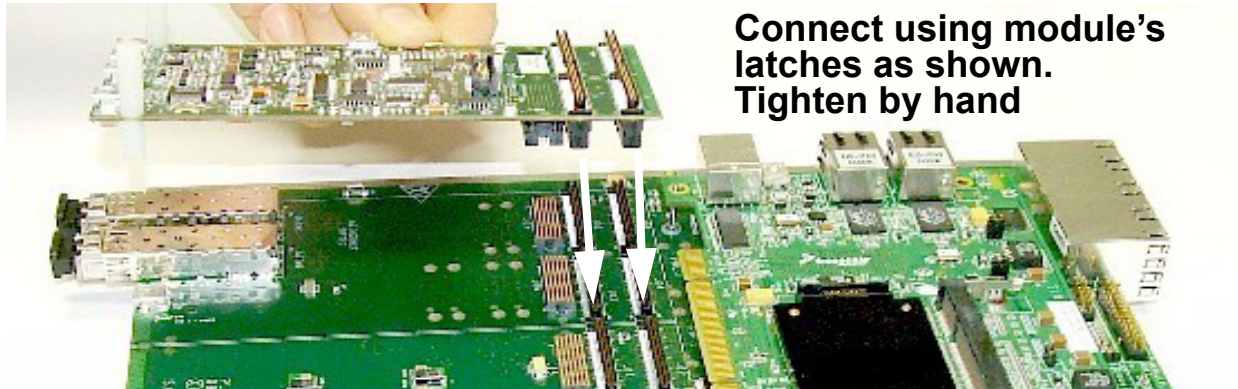
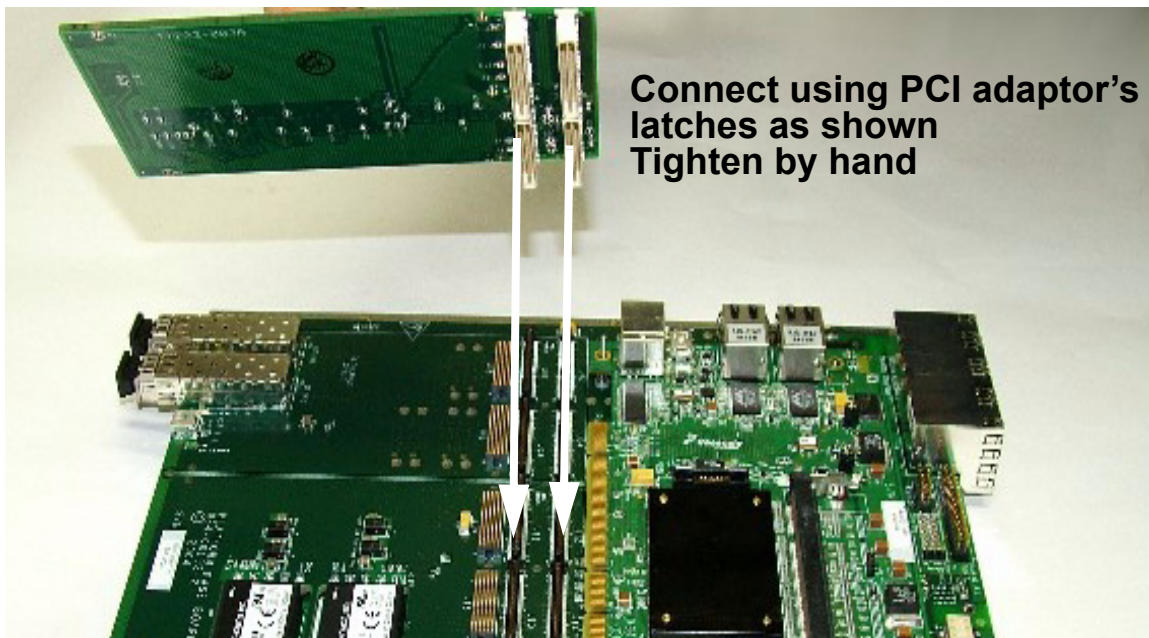
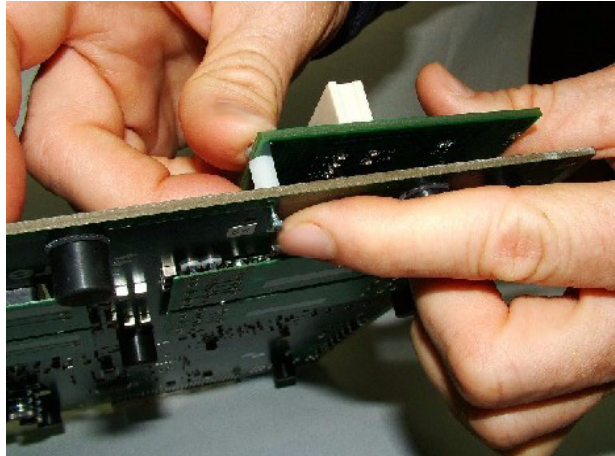
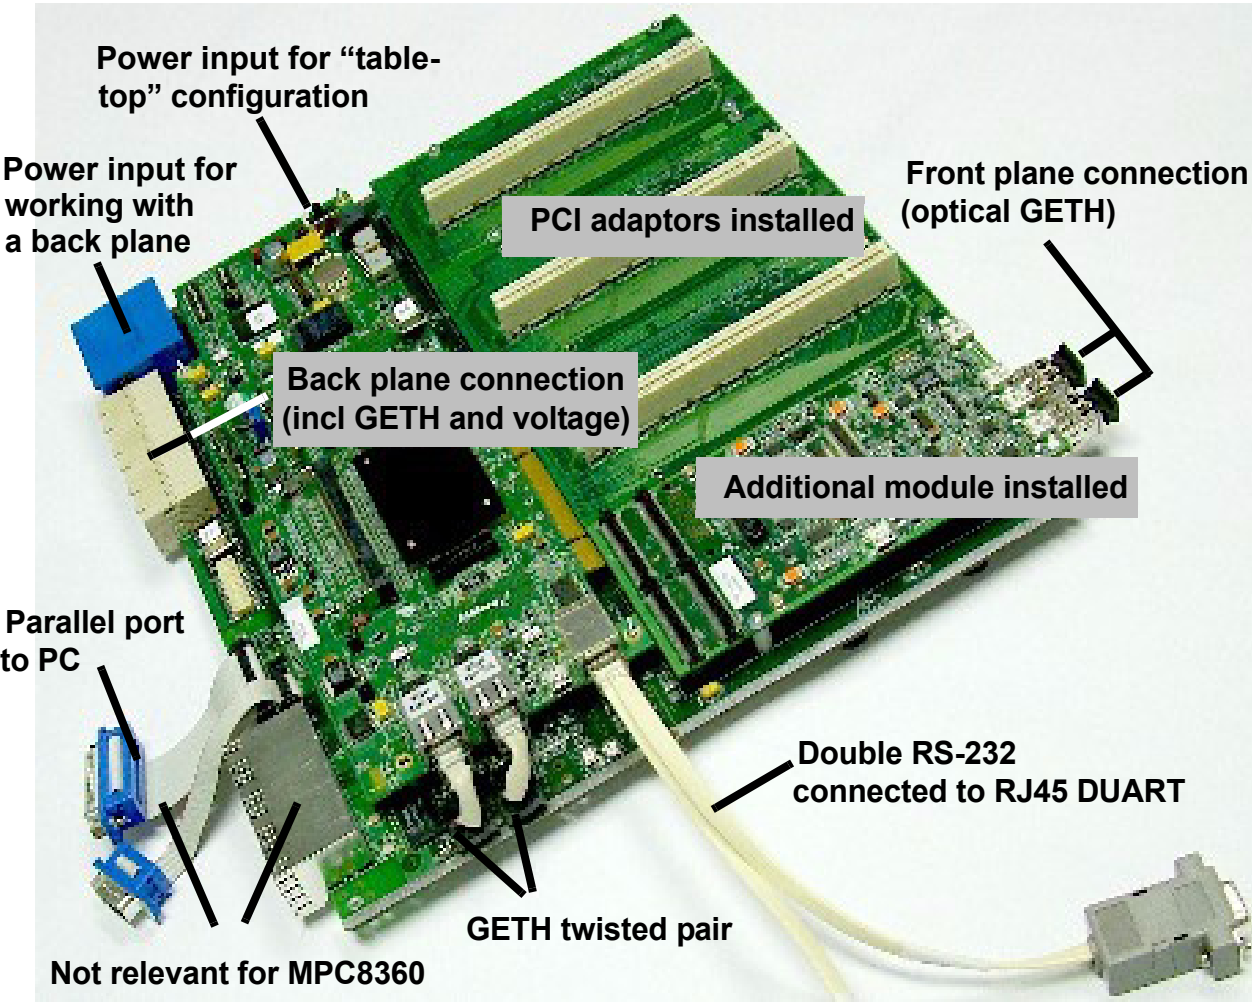

Figure 2-10. Connecting module card to PIB
Figure 2-11. Connecting PCI adaptor to PIB
Figure 2-12. Inserting spacers between PCI card and PIB
Figure 2-13. Fully Assembled Combined system:
8. If you wish to work with a module connected to a PCI adaptor, follow the illustrations in Figure 2-10, Figure 2-11, and Figure 2-12 to connect these items to the PIB.
9. The fully assembled PIB-Processor board is shown in Figure 2-13, which also shows the PIB external connections relevant when the MPC8360 is used.
In Figure 2-13, three PCI adaptors and one additional module are shown installed on the PIB. The PCI cards are ready to receive any PCI-compatible board, including an 83xx Processor board, installed in this case in the same manner as they are in a PC. Using this system, these boards (up to three) function as agents, while the Processor board already installed functions as a host. This allows you to take advantage of the parallel processing capabilities of the 83xx line of products.
As an agent on the PIB: Insert PCI adaptor or adaptors into the PIB as shown in Figure 2-11 and Figure 2-12, then insert the Processor Board into an adaptor, using its PCI edge connector, as shown in Figure 2-13.